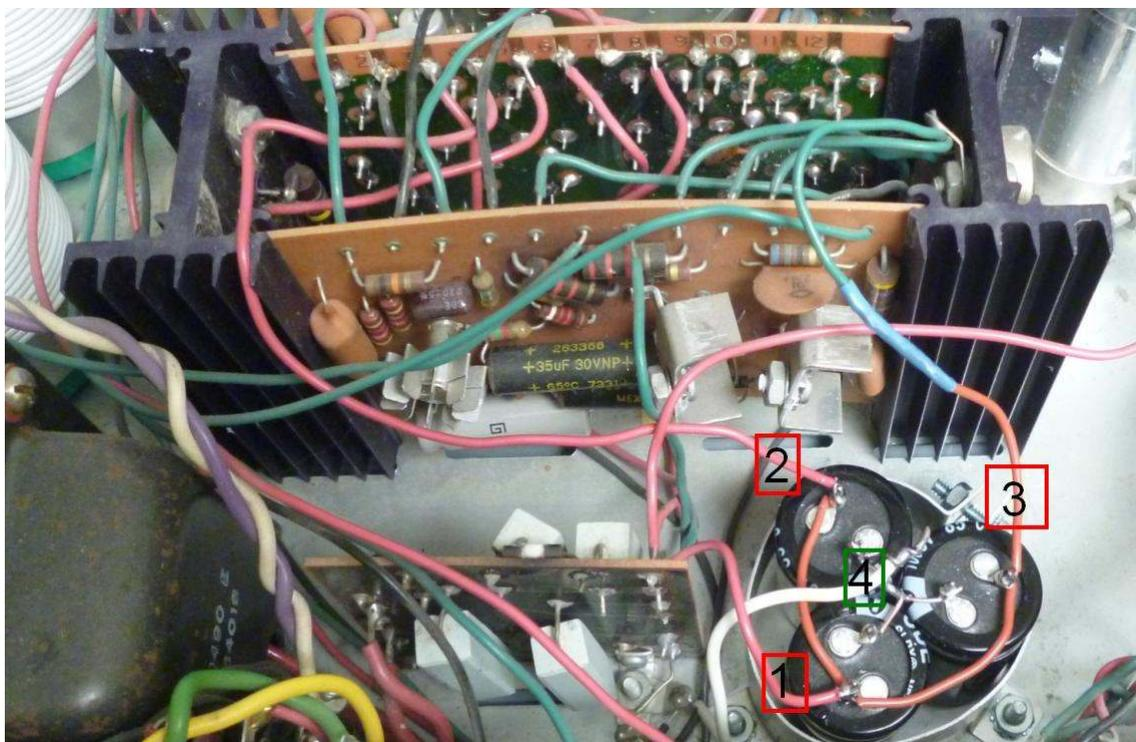

Figure 6-Reconnecting the wires to the new C9
3. Reconnect the three positive wires as shown in Figure 6:
4. Reconnect the ground wire, Wire 4 in Figure 6.